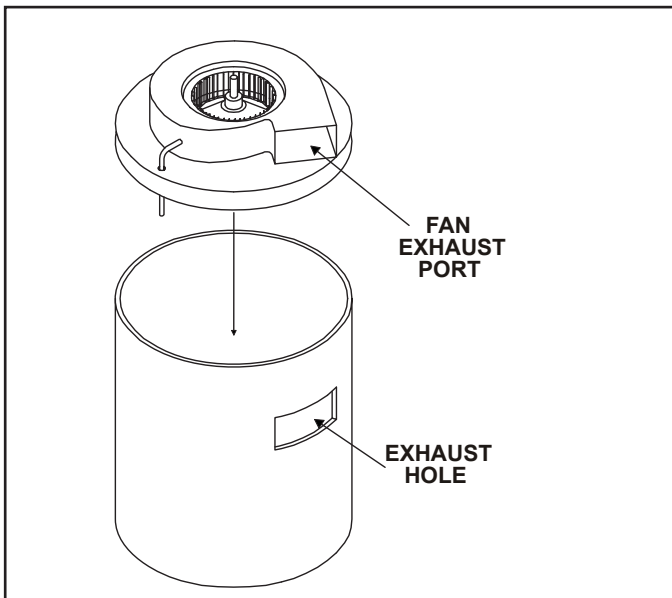

Figure 4.45
- A. Slide the fan assembly into the 10-1/2" diameter collar, making sure that the exhaust port on the fan assembly lines up with the exhaust hole cut in the 10-1/2" diameter collar. See Figure 4.45.